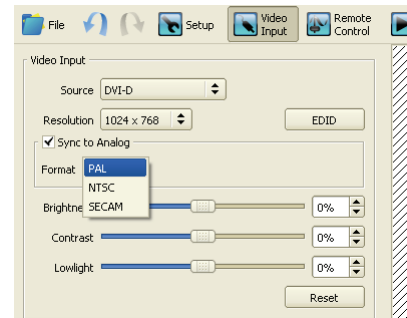
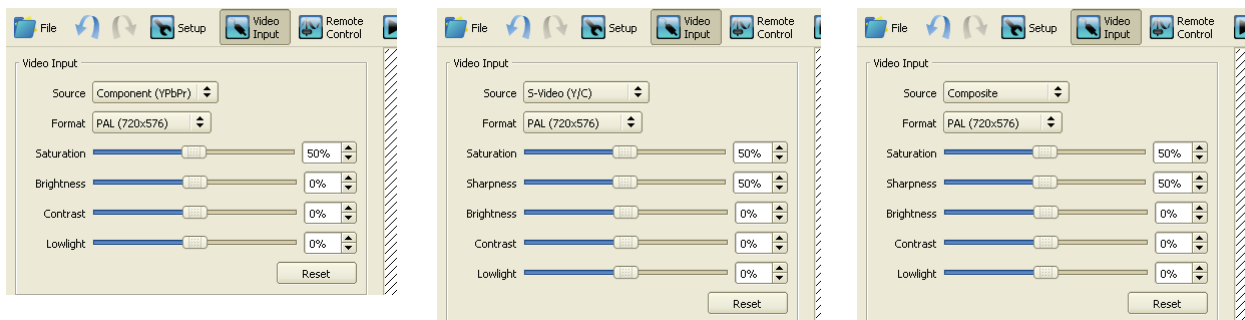

Figure 26: Sync to analog
Figure 27: Analog video source choice and adjustments
1. If you intend to use an analog video source, select **Component**, **S-Video** or **Composite** under **Video Source**, then select your system: **PAL**, **NTSC** or **SECAM** (see Figure 27).
You can adjust brightness, contrast, gain, etc. of the video image in real-time by moving the corresponding sliders under **Video Input** (see Figure 26 and Figure 27) at any time. The image adjustments available depend on the type of video source you have selected.